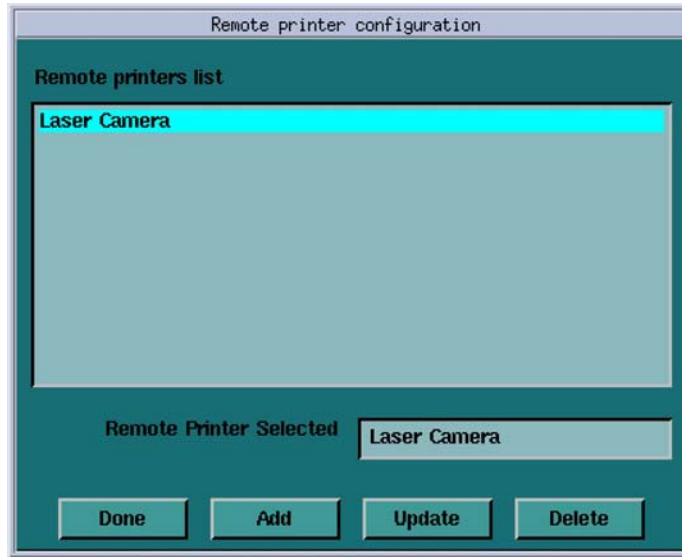

Figure 8-10 Printer Configuration GUI
- 3.) The Graphical User Interface displayed shows a list of cameras installed (See Figure 8-10). First, you must click OK in the warning message box. See Figure 8-9.
- a.) To add a new camera, click the ADD button (See Figure 8-10).